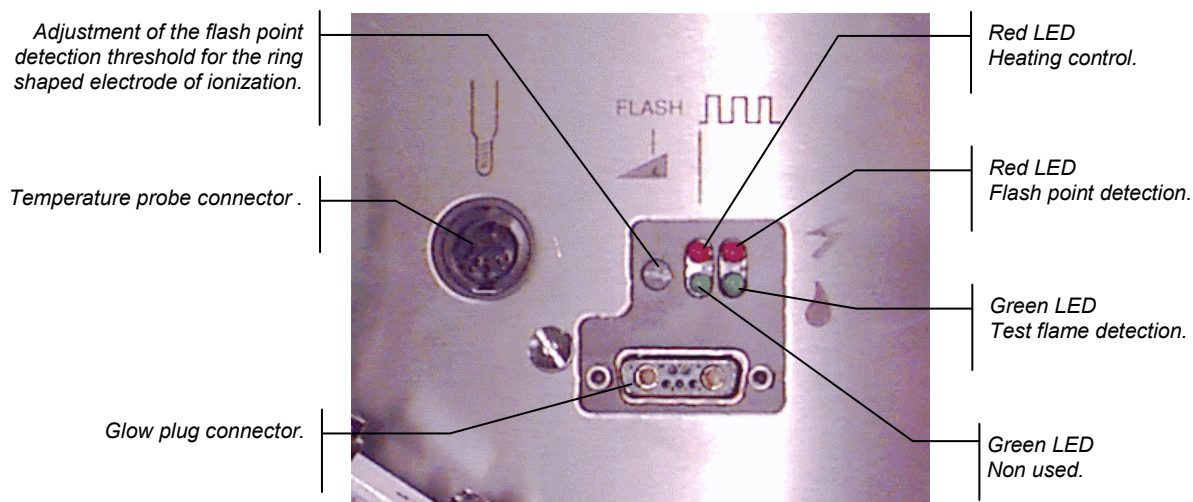

Figure I-4: Connection panel connectors
- Connect, if necessary, the relight glow plug to the connection panel (see Figure I-4 above).